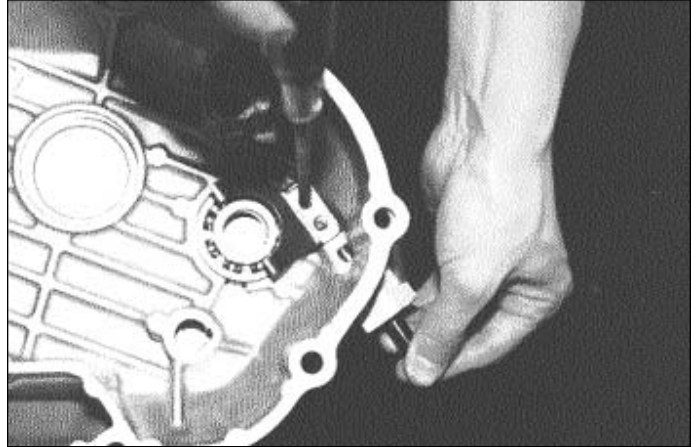

Figure 35 - Governor Yoke
15. Remove two screws holding stopper plate and governor fork to the governor shaft. Remove fork and pull the shaft out of gear case using care not to damage the seal. Use care in removing screws. Locktite was used to prevent loosening. See Figure 35. Remove bearing (6204) from behind governor fork.
8. Tap a new bearing (6204) into the gear case bore (under shift fork). See Figure 35. Coat the governor shaft with grease, and slide through the bearing and into the case as illustrated.